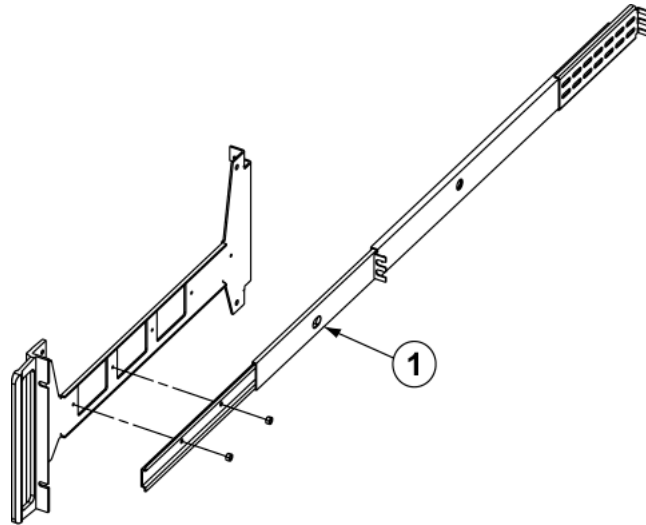

Figure 2-8. Rack Mount Slide Assembly Diagram
- Step 4.** Install the rack mount slides over the threaded studs on the rack mount bracket and handle fixtures as shown in Figure 2-8, below, and secure them in place with the two fastening nuts. (Push button at 1 to release and extend slide.)